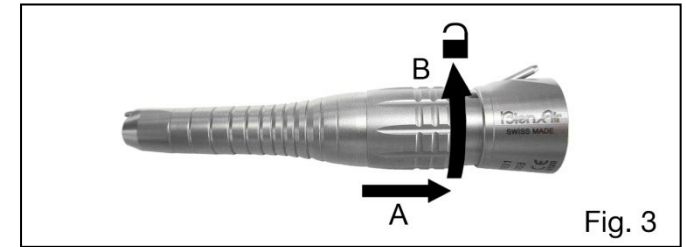

Fig. 3
1. To open the handpiece, pull the ring up to the thrust stop and turn it in the direction of the arrow (**Fig. 3**).